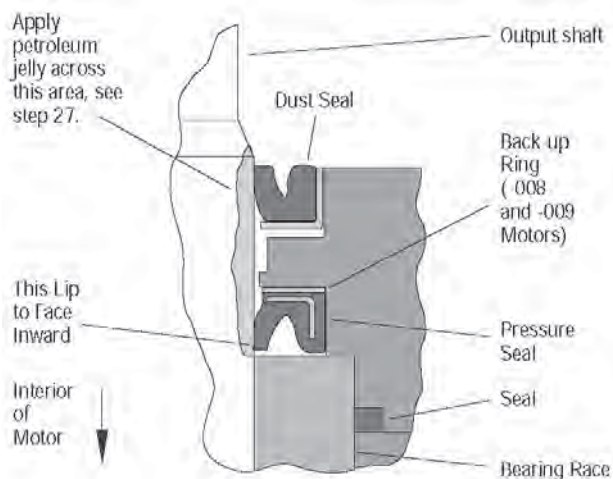

Figure 14
8. Before installing \angle ange and seal assembly over shaft, place protective sleeve or bullet over shaft. Then lubricate space between exclusion seal and pressure seal, as well as lips of both seals (see Figure 14).